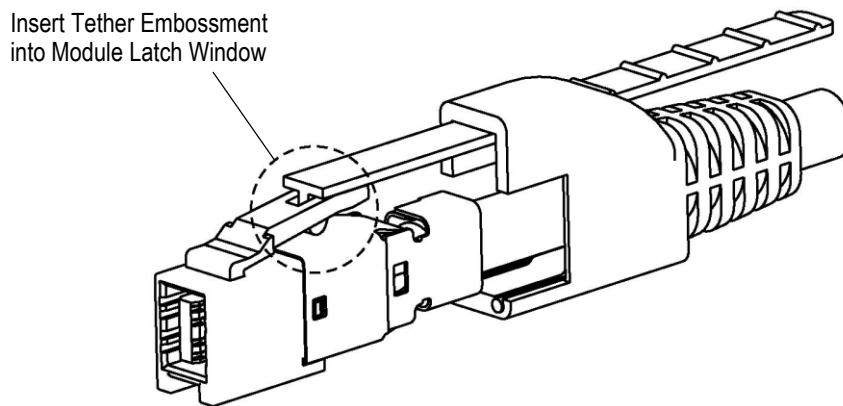

Figure 8
8. Insert tether embossment into the module latch window as shown in Figure 8.